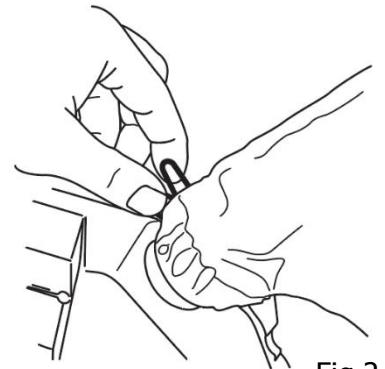

Fig.2
1. With the mitre arm locked in the down position, compress the two tabs on the spring clip and slide the bag over the rib on the dust port (Figure 2) then release the tabs.